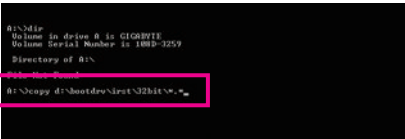

Figure 1
- For the Intel P55, type (Figure 1):^(Note)